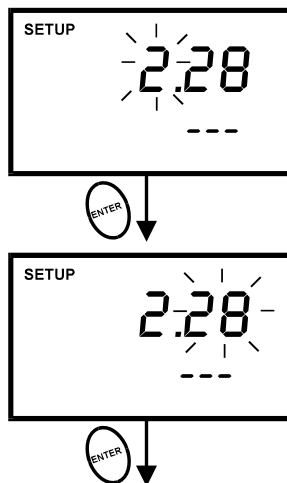

Figure 35 - P5.0: Setting month and date (pH 310 meter only)
9. Press the ENTER key to confirm the month and move to “date” selection. The “date” digits will flash. See Figure 35 (next page).
15. Press the ENTER key to confirm the minutes and move to “second” digits will flash. See Figure 35.